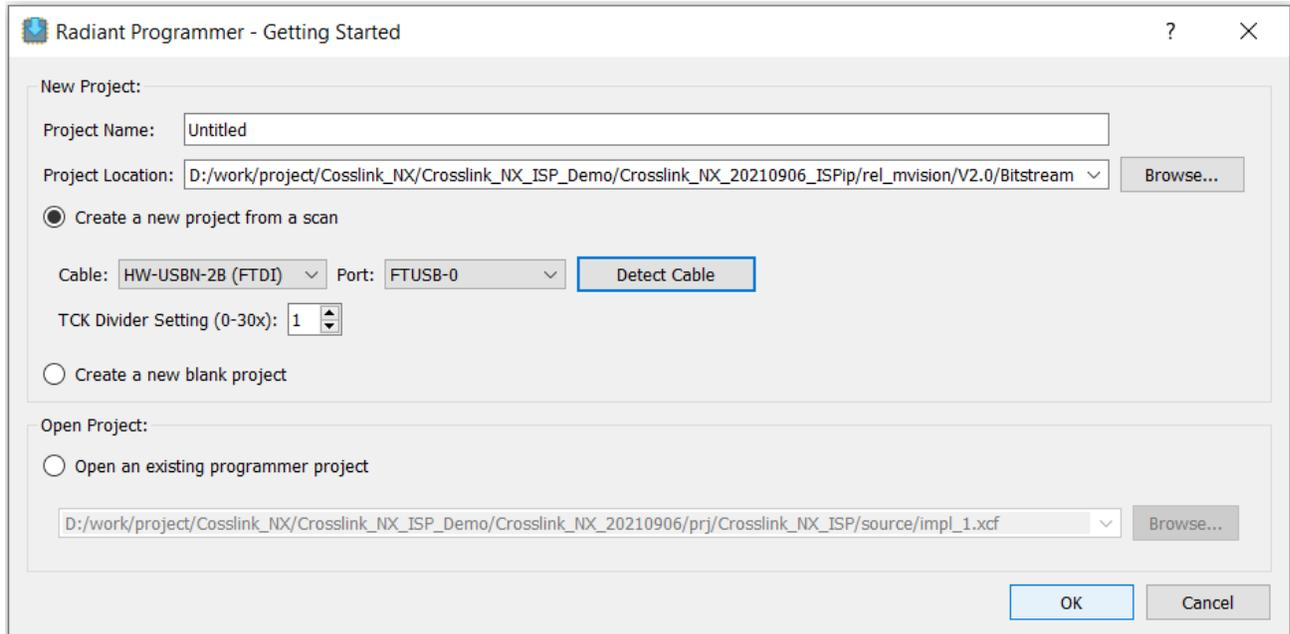

Figure 5.1. Getting Started dialog in Lattice Radiant Programmer
4. The Radiant Programmer — Getting Started dialog box pops up (Figure 5.1). By default, the *Create a new project from a scan* option is selected. Check and confirm other settings are correctly reflected the real components connected (Figure 5.1). Click OK, if everything is correct.